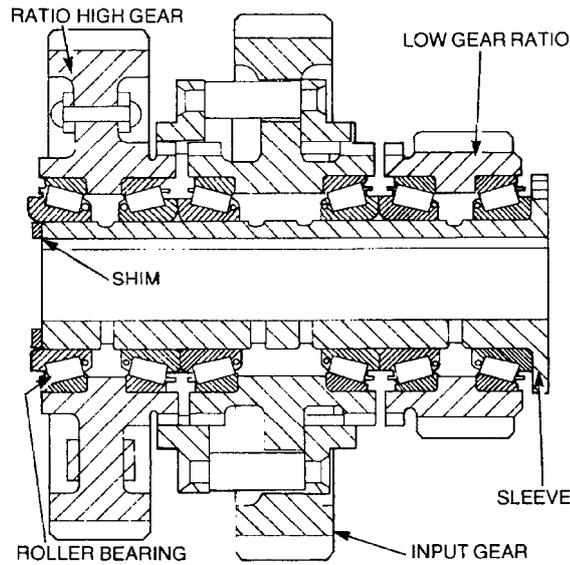

Figure 183 Intermediate Sectional View
- i.** Remove the shim installed on the end of the hollow sleeve and remove each gear complete with the bearing cups and cones (Figure 183).